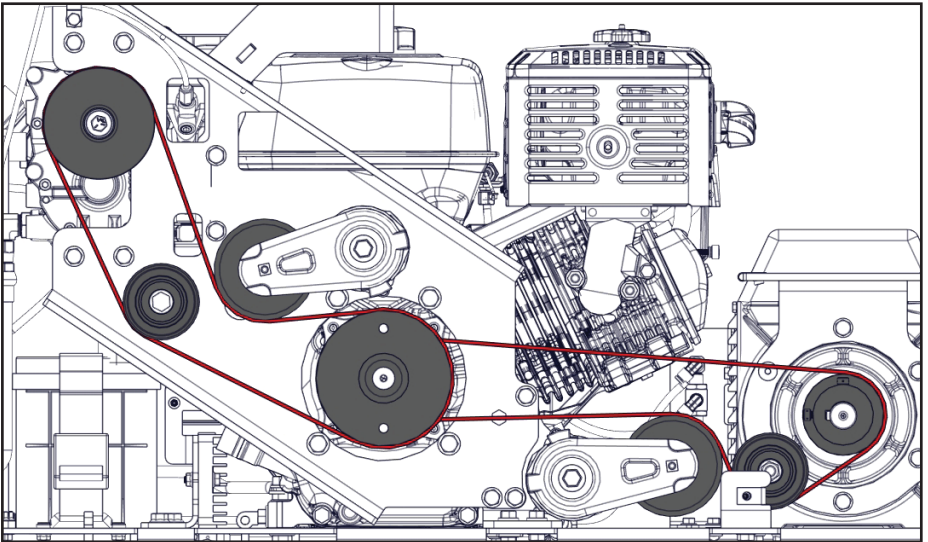

Figure 87 — Belt routing
- Compressor and generator belt routing (Figure 87).